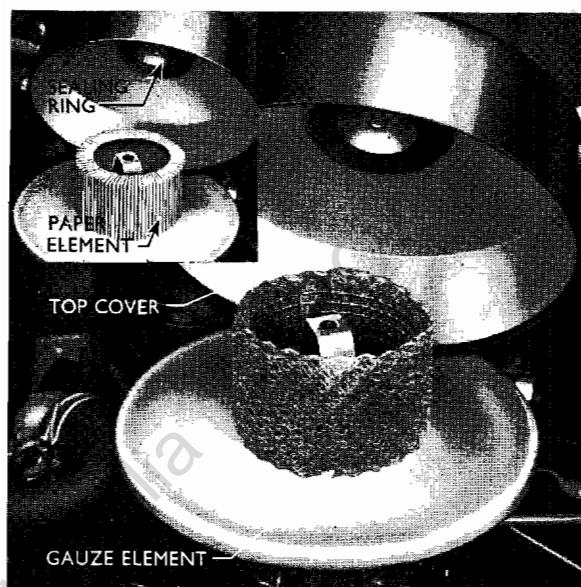

Fig. 1
4. Fit two new rubber sealing rings, one round the boss inside the top cover, shown in Fig. 1, the other locating at the bottom, on the body of the cleaner.